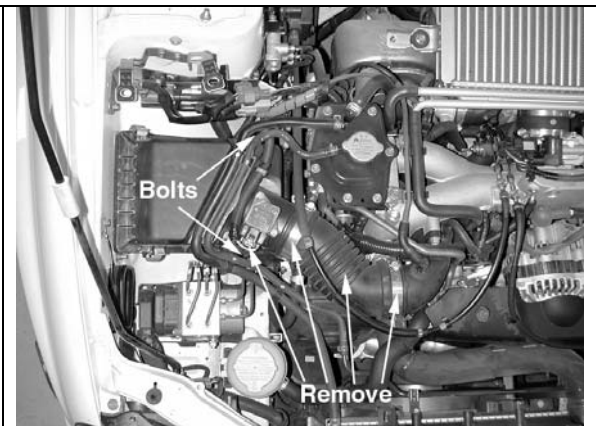

Fig. 2
- e) Down on the frame rail, on either side of the air box, are the bolts that hold the air box in place. Remove the two bolts and the air filter box assembly. **Note: Reinstall the bolts after removing the air box. (Fig. 2)**